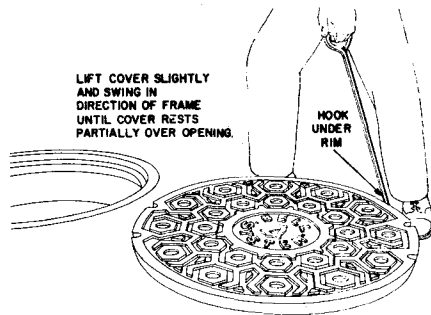

Fig. 39—Sliding Cover to Manhole Frame
- (1) With feet spread well apart, stand slightly over the cover while facing approximately at right angles to the line on which the cover is to be moved.
- (2) Place the point of the manhole hook under the rim of the cover, lift slightly, and swing the cover toward the manhole while the cover pivots on its opposite edge (Fig. 39).
Note: When moving a G- or H-type cover in the manner shown in Fig 39, the hook must be placed under the rim directly opposite a lifter